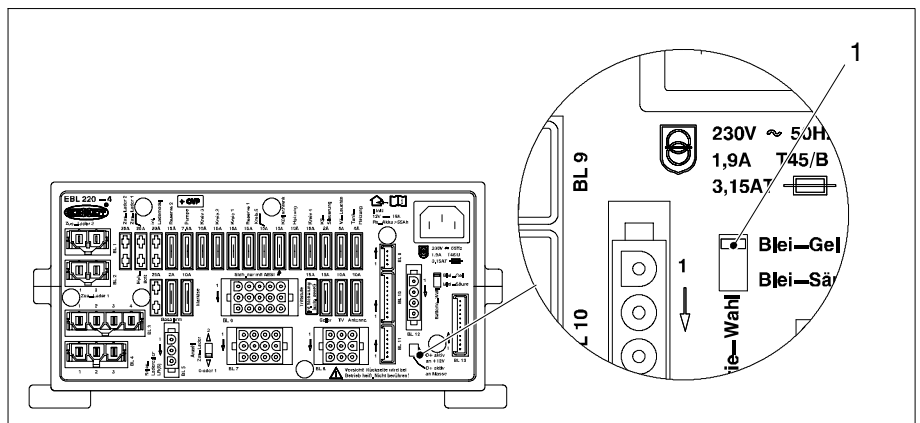

Fig. 1 Battery selector switch
- Move the battery selector switch (Fig. 1, Pos. 1) into the relevant position using a thin object (e. g. ball-point pen):